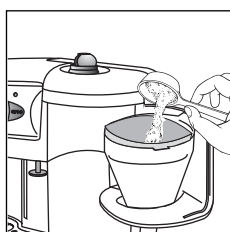

fig. 6
- Place the ground coffee in the filter using the measuring spoon supplied, level the coffee evenly (Fig. 6).